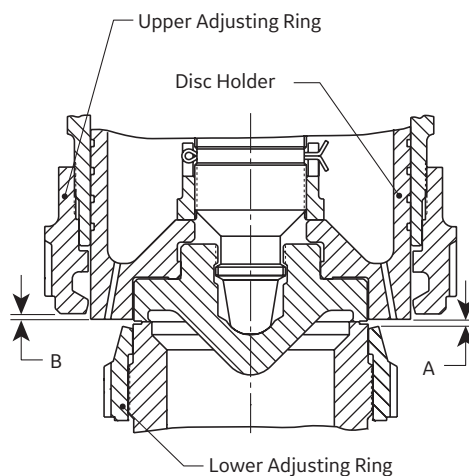

Figure 33
- e. Refer to Figure 33, and move the lower adjusting ring down the number of notches indicated in Column A, plus 1 additional notch for each 600 psig (41.37 barg) increment of set pressure, not to exceed six notches (see Table 12).
- e. From this point, move the upper adjusting ring down the number of notches indicated by Column B of Table 12. This is also Dimension B in Figure 33.